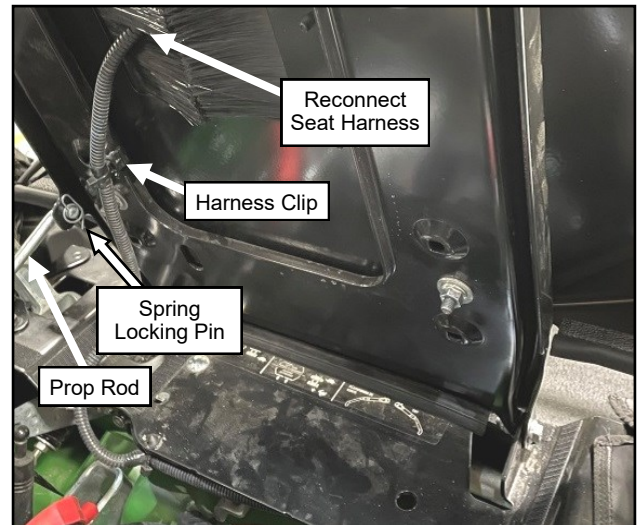

Fig. 1.29 (Reconnect Seat Connector & Prop Rod)
**1.29** Tilt the seat forward, while holding the seat, re-install the prop rod to the seat frame and re-install spring lock pin. Next, reconnect 2-pin connector from the underside of the seat and re-install the harness clip to the seat frame. Lower the seat back down. See Figure 1.29.